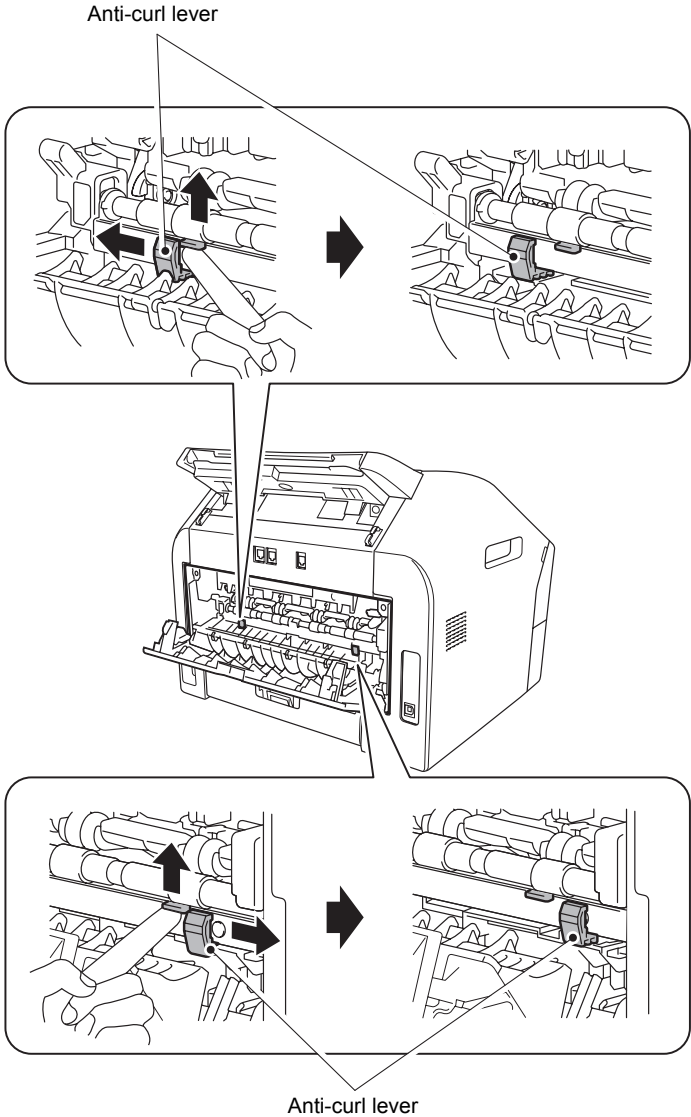

Fig. 2-8
- Turn the anti-curl levers in the direction of the black arrow. (Refer to Fig. 2-8.)